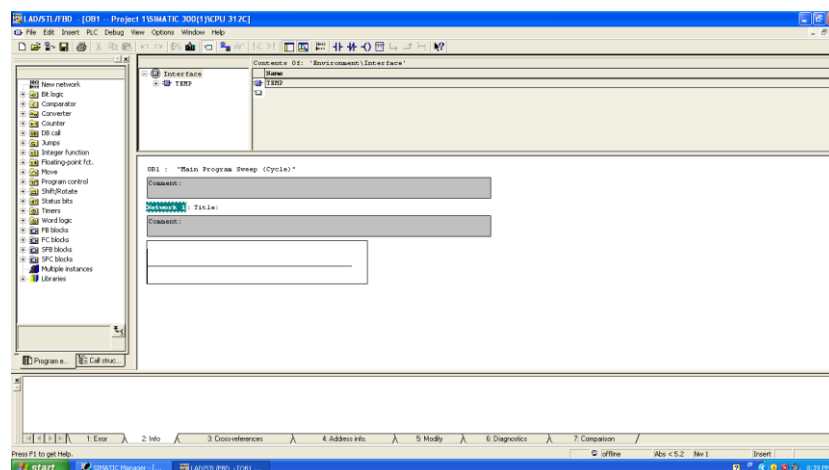

Figure 9. Block OB1
6. To start programming to PLC, start on click **CPU 312C** → **S7 Program (1)** → **Blocks** → **OB1**, then choose a programming language. Click on LAD (ladder) for programming language, and then screen to start programming will be open like in figure 9.